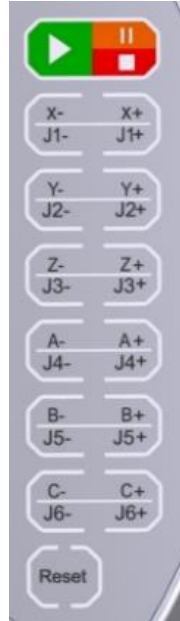

Fig. 1.18 Jog Button of Robot
6. Press the Jog button to teach the robot movement, as shown in Fig. 1.18 below.